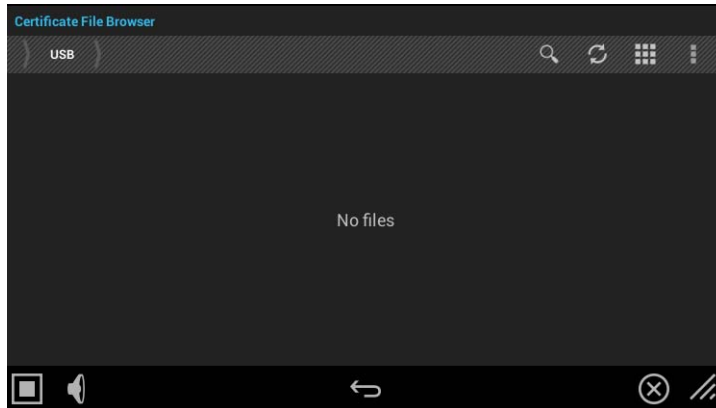

FIG. 107 Select a Certificate Type window (indicating no certificate files found)
3. In the *Certificate File Browser* window, select the certificate file on the attached USB drive that will be installed (FIG. 107):